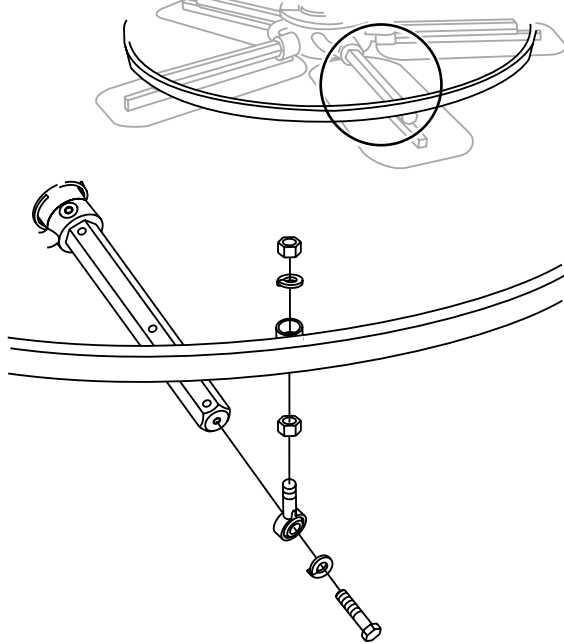

Figure 37. Stabilizer Ring
1. Remove the hardware securing the stabilizer ring to the trowel arm. (Figure 37)